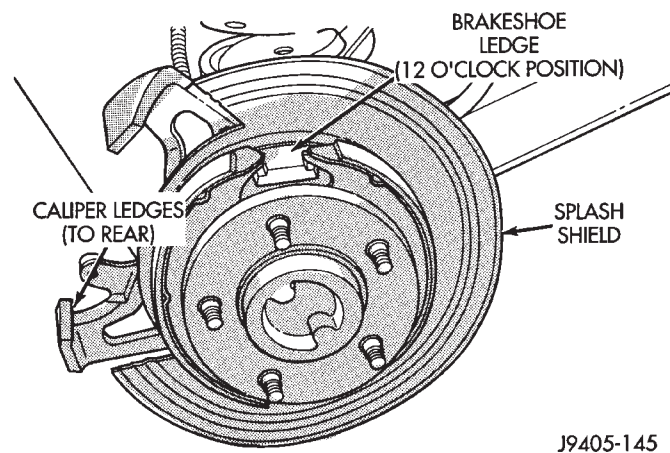

Fig. 58 Checking Caliper Bracket And Shield Position
(8) Verify correct positioning of caliper bracket and shield (Fig. 58). Caliper opening and ledges should be to rear as shown.